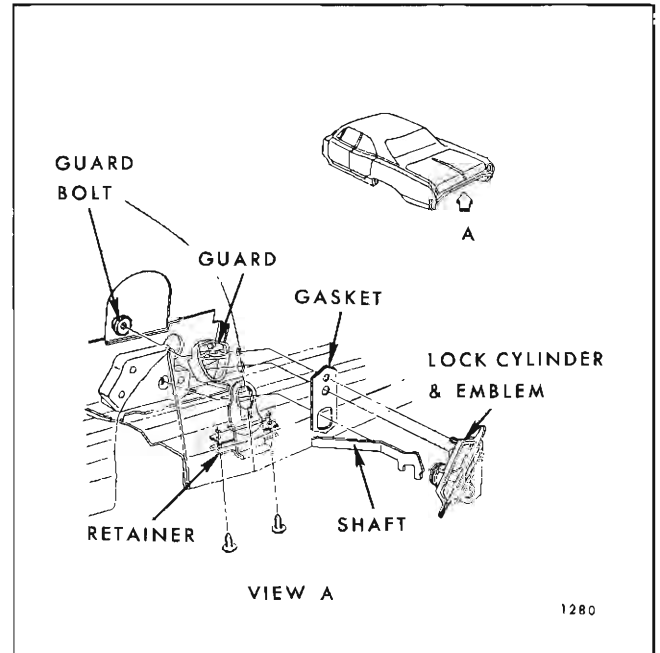

Fig. 1F11—Rear Compartment Lid Lock Cylinder and Emblem Assembly
2. Remove screws (2) securing retainer to rear compartment lid and disengage retainer from lock cylinder and emblem assembly and remove unit (see Fig. 1F11).